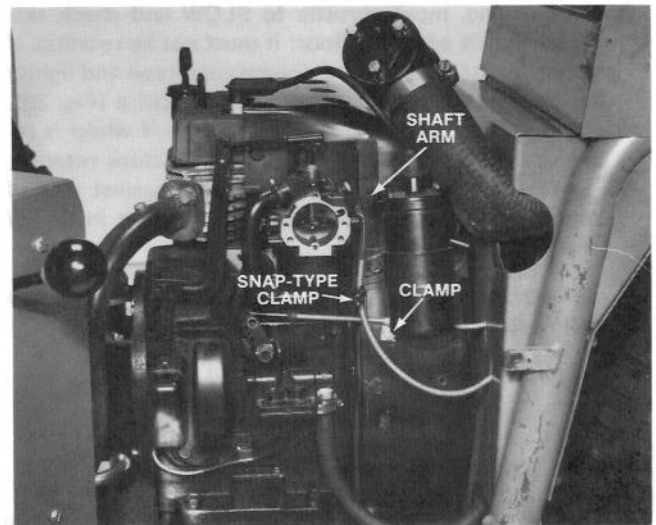

Figure 42
1. Release the snap-type clamp (Fig. 42).
2. Secure the cable in the clamp such that the butterfly is just on the verge of opening (Fig. 42).